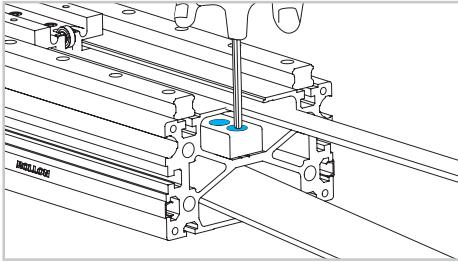

Fig. 13
- 14) Remove the safety block (Fig. 13).
- 17) Remove the safety block on this side as well (Fig. 13).